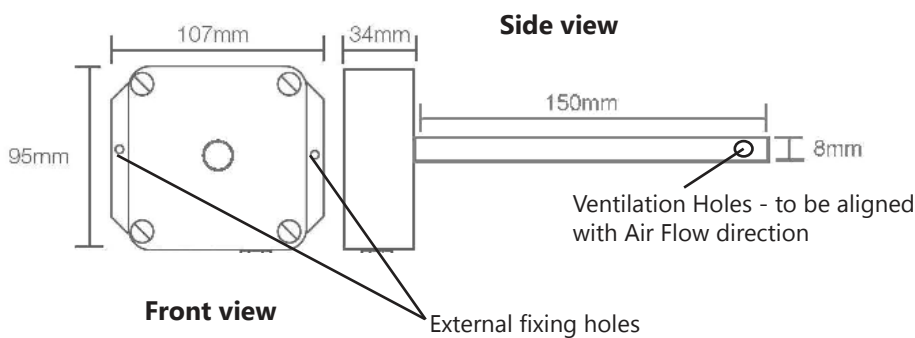

Fig 3.0
- The sensor is to be firmly fixed to the ventilation duct work using the sensor's external fixing holes. See Fig 3.0.